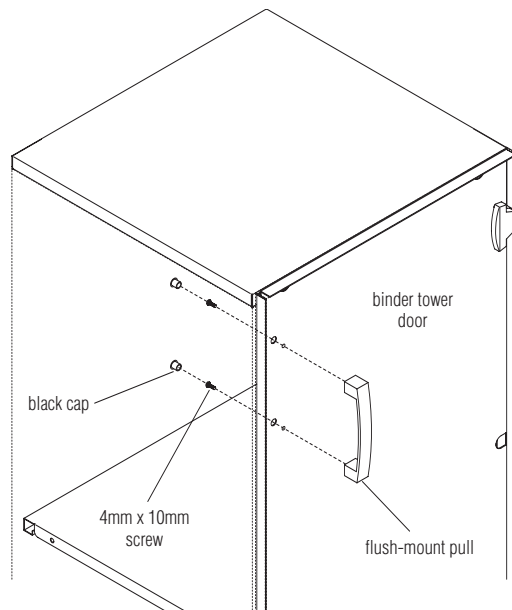

Figure 3
2. Using two 4mm x 10mm screws, fasten the pull to the door as illustrated (Figure 3).
3. Finish the inside of the door with two black plastic screw caps (Figure 3).